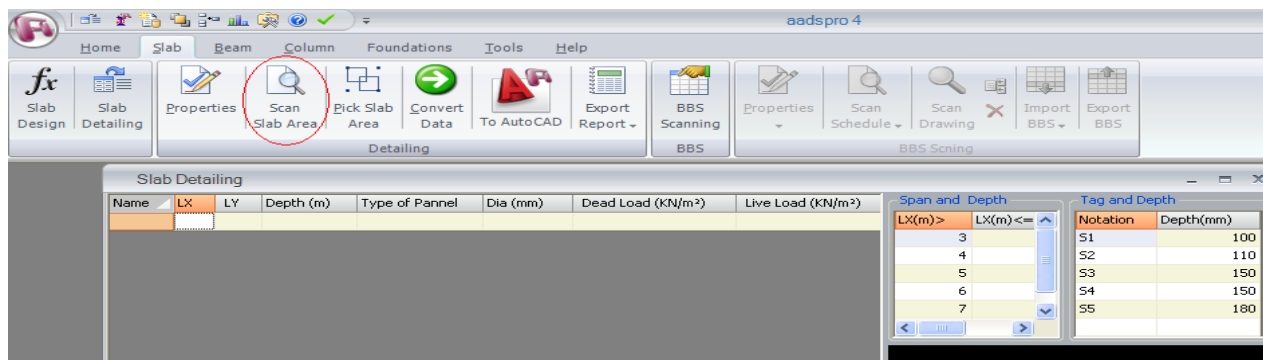

Fig 7.1.6
- Click on the **Scan slab area** from tool bar (fig 7.1.6)